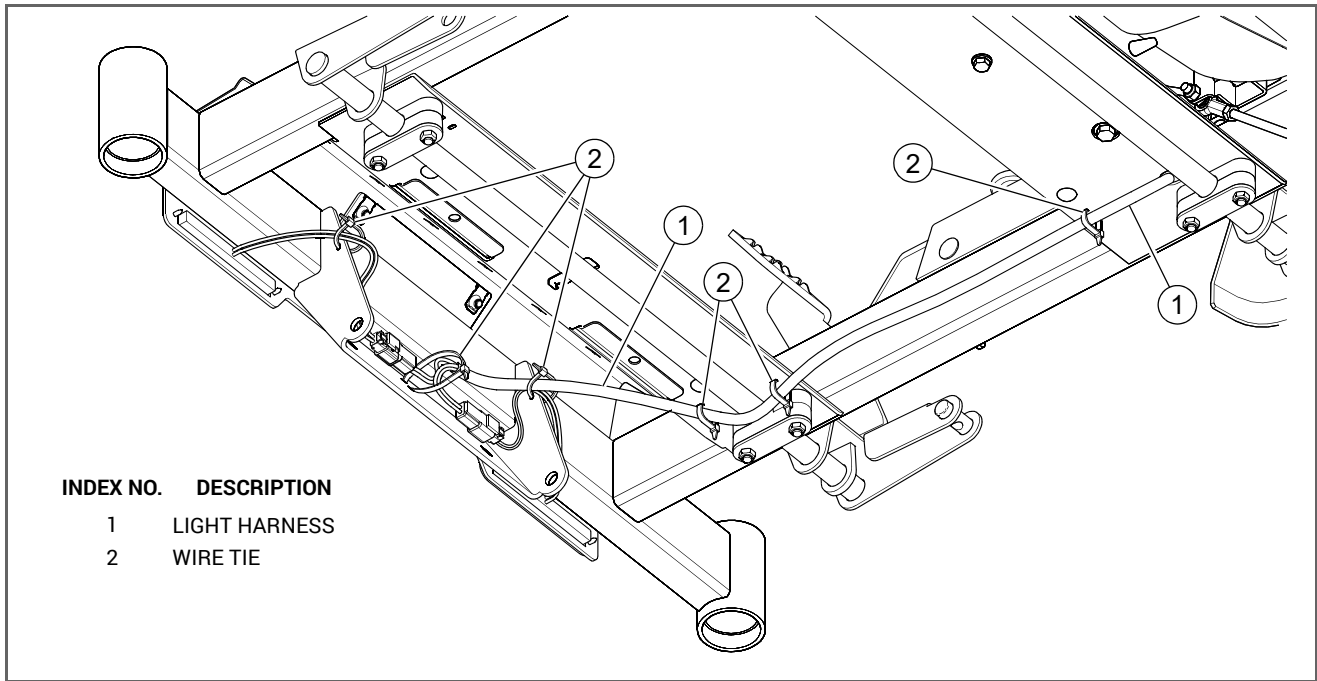

FIG. 8
15. Adjust the light harness to avoid moving components or being pinched. Tighten the wire ties. FIG. 8